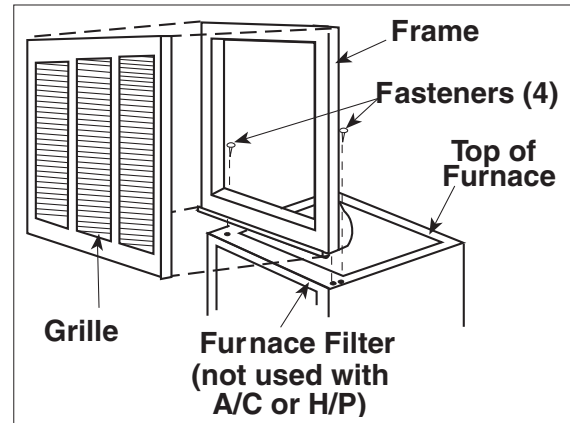

Figure 4. Grille Support Frame and Grille Assembly
- use the filter supplied with the furnace; ensure that the filter is installed mat side down between the filter retainer and furnace top (see Figure 4).